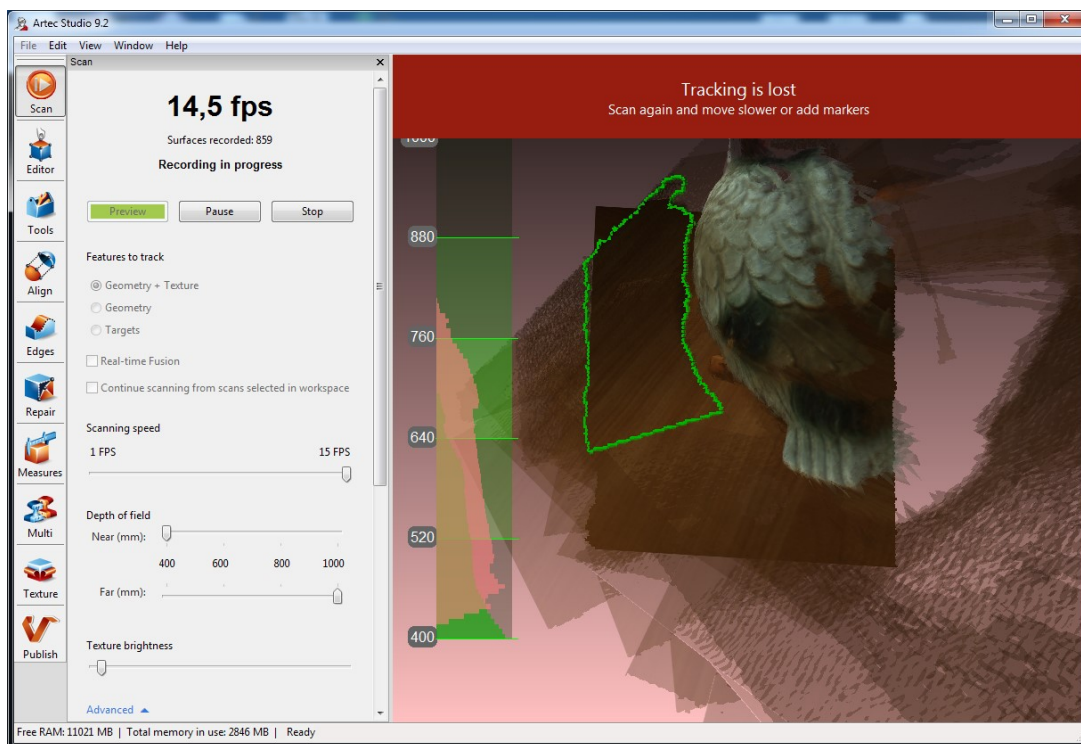

Figure 2.5: Message about lost tracking
When scanning, bear in mind that moving the scanner too fast may cause overlapping areas of adjoining frames to become too small, so the application will not be able to automatically align the new frame with the previous one. In this case, scanning will halt and the system will switch to waiting mode until the scanner captures a frame that can be well aligned with the preceding sequence. All new frames which cannot be positioned correctly relative to the previous frame will be discarded and not included in the new scan being created. In that case the screen background will become red and a notification message will appear, alerting the operator to return the scanner to the previous position and try to either move slower or add additional geometry or texture objects (shown on figure 2.5). At the same time, the system notifies about the error by recurrent alarm, which stops when the error is eliminated (the audible alarm can be enabled or disabled under the *UI* Tab in the settings dialog, see subsection 7.4.1).
- Being enabled in the application settings (subsection 7.3.3), this option after three seconds switches the *Tracking is lost* mode (figure 2.5) into *Searching for position* followed by the message on a green background.